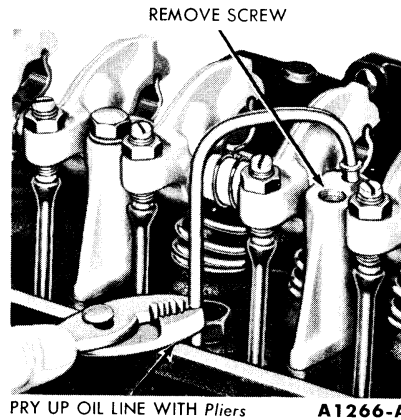

FIG. 18—Oil Inlet Line Removal
2. Remove the cap screw and bracket from the No. 4 valve rocker arm shaft support. Pull the oil inlet line out of the support, then pull the line out of the block with pliers (Fig. 18). Discard the O-ring seal.